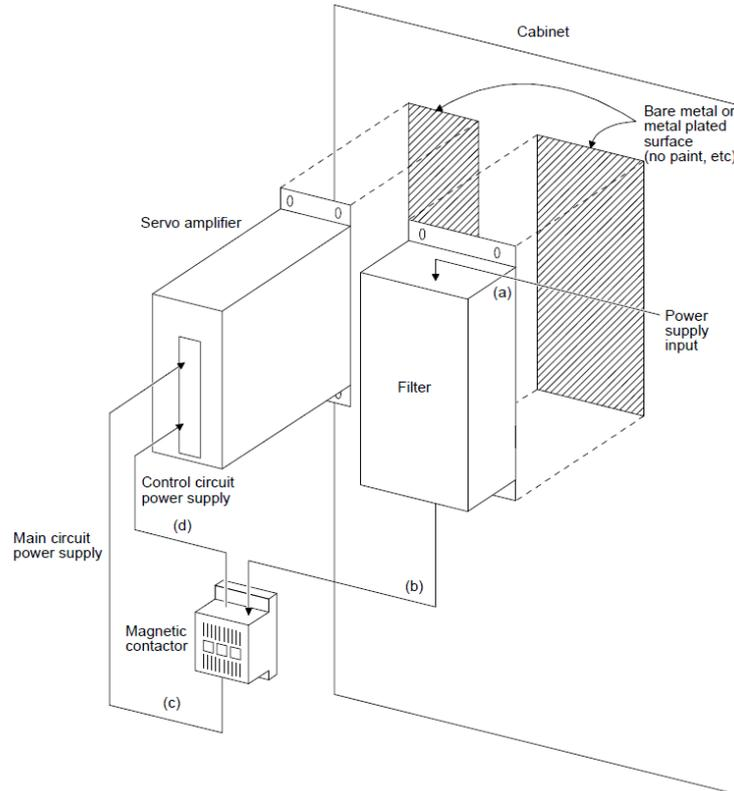

Fig. 17. Mounting devices on the control cabinet
- Install the EMC filter on a bare metal or a plated metal to release the noise from the filter. (Refer to Figure 17.)